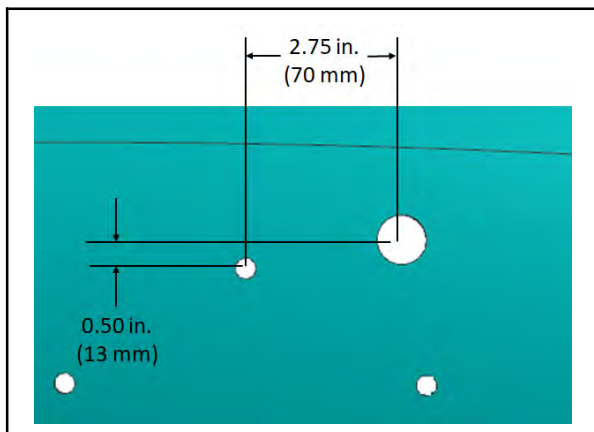

FIG. 3
3. Measure and mark a location for the harness routing hole onto the front shroud. (Fig. 3)
4. Drill a 0.886 in. (22.5 mm) hole for harness routing completely through the front shroud. **Do Not** drill into any parts/components located behind the front shroud. (Fig. 3)